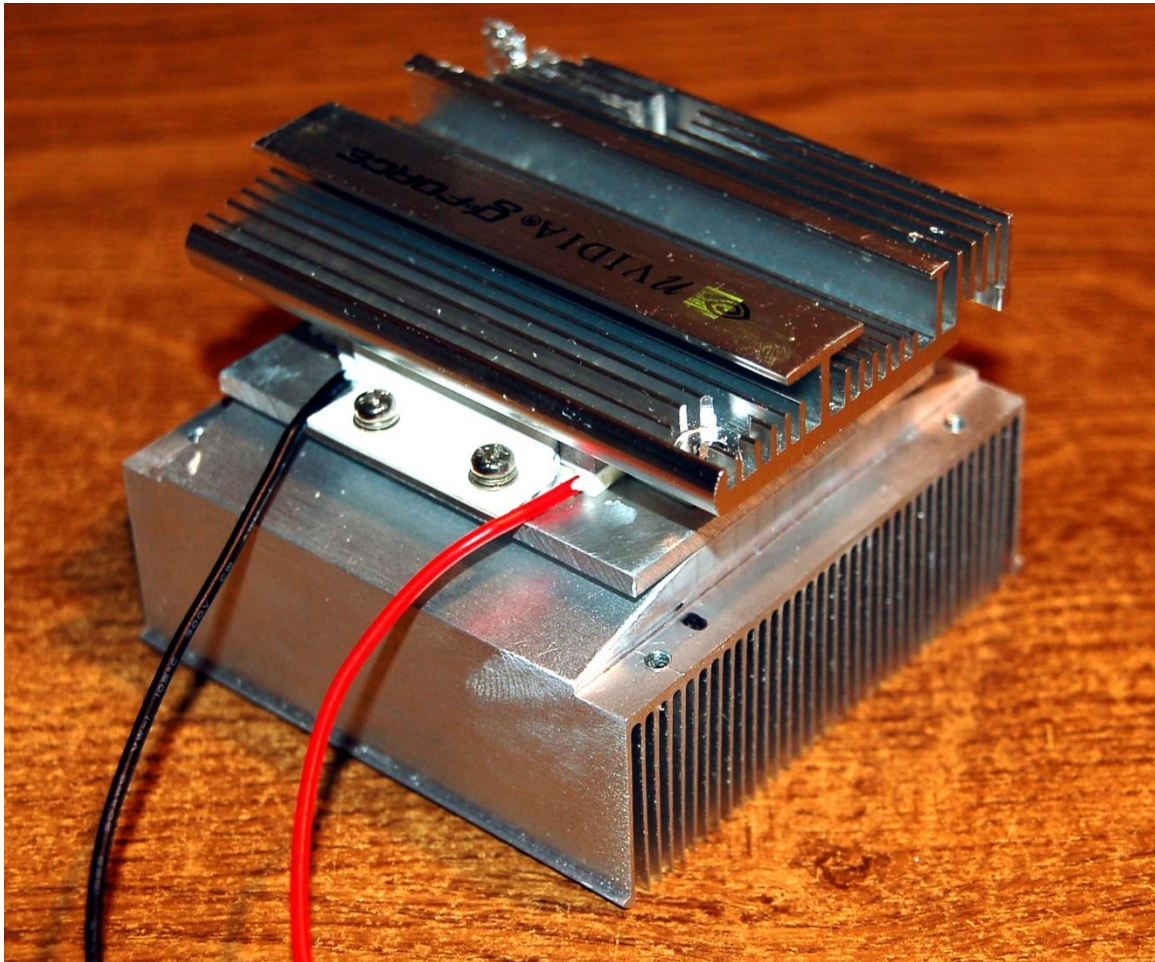
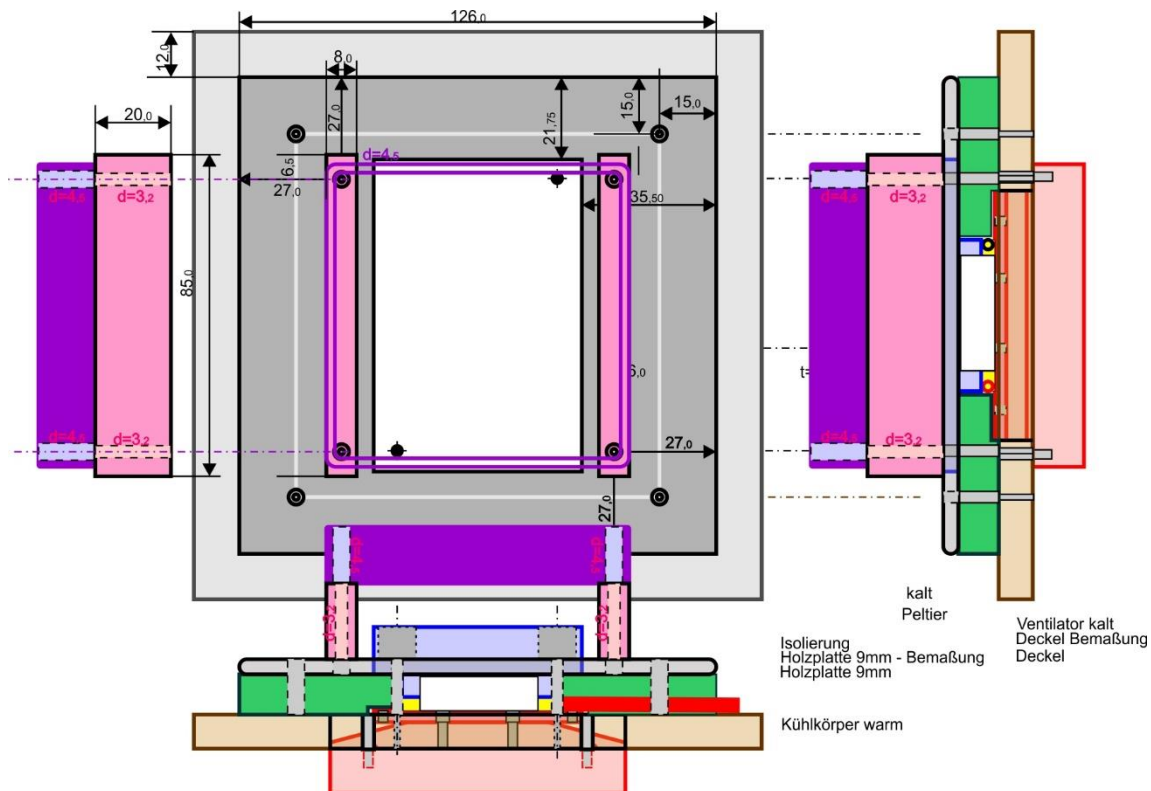

Abbildung 6: Thermokopf komplett (ohne Lüfter)
Abbildung 7: Lüfter Kaltseite
- The entire heat exchanger head, still without a fan, is shown in Figure 6. The individual layers are shown schematically in Figure 7. Because of the multitude of heat sinks and fans, your result will very likely be different. In all cases, only three things are important.
By clicking on Figure 7 you can download the archive of all work drawings for the thermal head. This includes 6 pages DIN A4, which show the career on a 1: 1 scale.